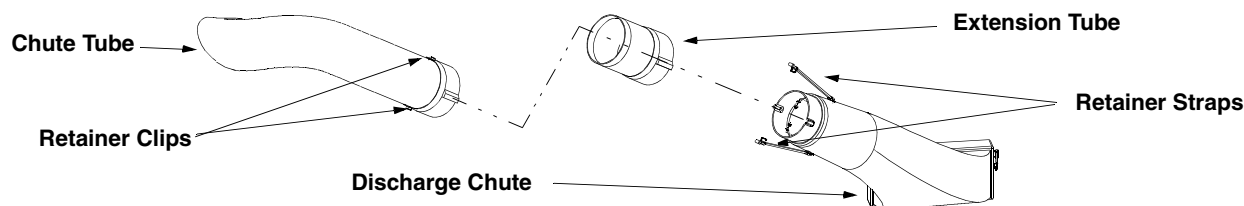

Figure 2
4. Attach the extension tube included in this kit to the top of the bagger discharge tube. Secure it in place by attaching the retainer straps to the retainer clips found on the chute tube. See Figure 2.